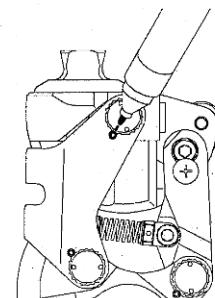

Fig. 3
- a) To measure the tightening amount of the toothed knobs, make a mark on the root thread of knob **A** which is in contact with the clamping screw (Fig. 3).